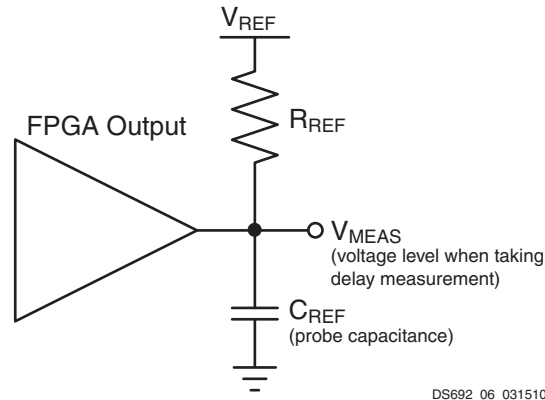
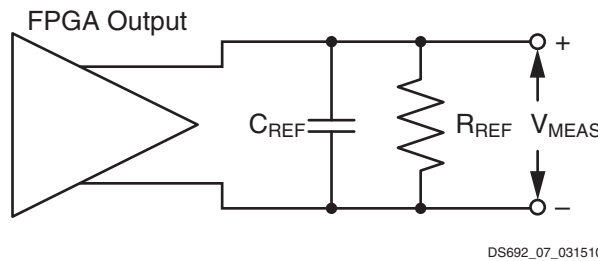

Figure 6: Single-Ended Test Setup
Figure 7: Differential Test Setup
5. This is an input voltage reference that bears no relation to the V_{REF} / V_{MEAS} parameters found in IBIS models and/or noted in Figure 6.
Output delays are measured using a Tektronix P6245 TDS500/600 probe (< 1 pF) across approximately 4 inches of FR4 microstrip trace. Standard termination was used for all testing. The propagation delay of the 4-inch trace is characterized separately and subtracted from the final measurement, and is therefore not included in the generalized test setups shown in Figure 6 and Figure 7.